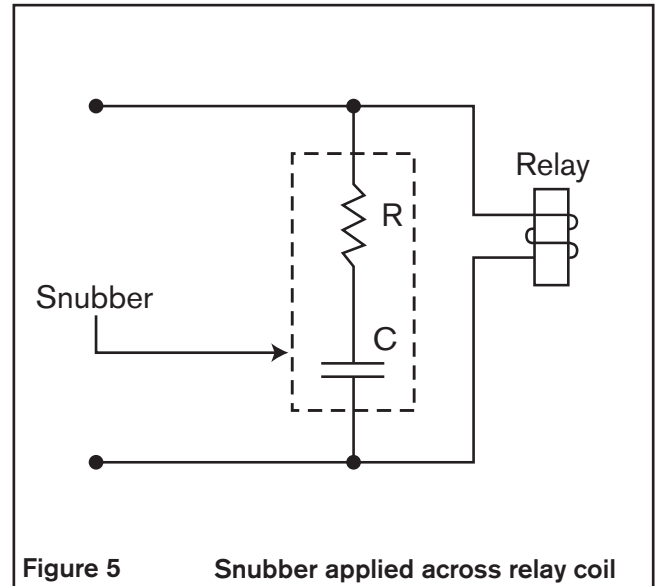

Figure 5 Snubber applied across relay coil
- Place a resistor-capacitor network (snubber) across inductive coils such as relays and solenoids in order to stop electrical interference at the source (See Figure 5).